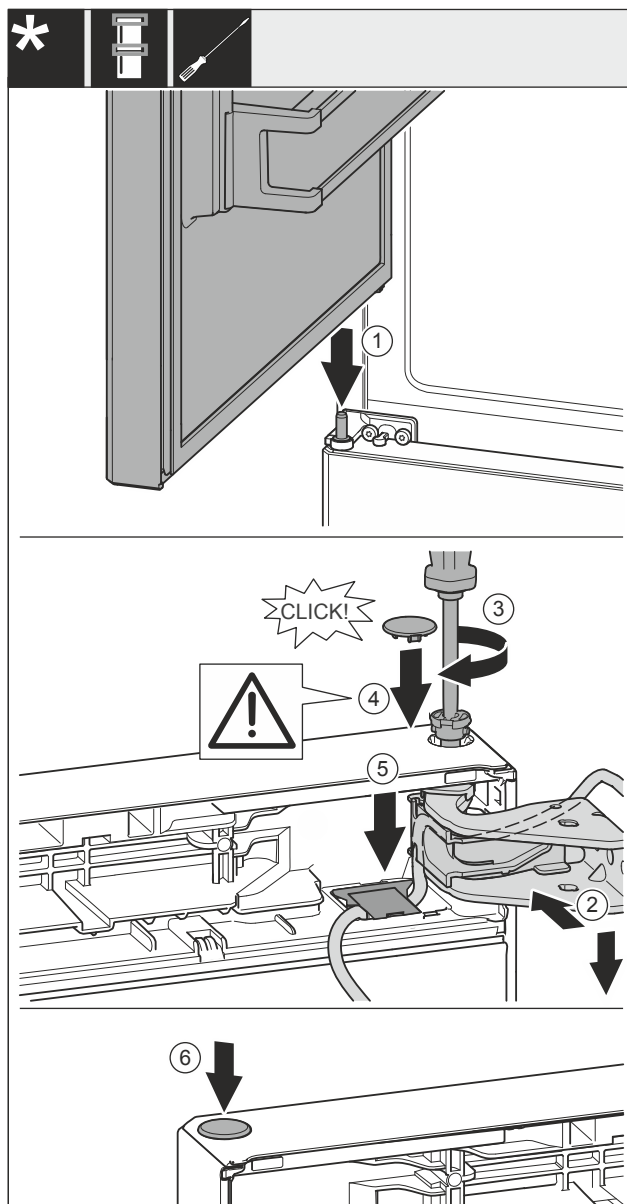

Fig. 58
- ▶ Place the top door on the centre bearing bolt Fig. 58 (1).
- ▶ Align the top door with the opening in the swap bearing block Fig. 58 (2).
- ▶ Insert the bolt Fig. 58 (3) and use screwdriver to tighten it.
- ▶ Insert the cover Fig. 58 (4).
- ▶ Check that the cover Fig. 58 (4) is resting on the door.
- ▶ Insert the cover Fig. 58 (5) and push down until it engages.
- ▶ Insert the cover Fig. 58 (6).